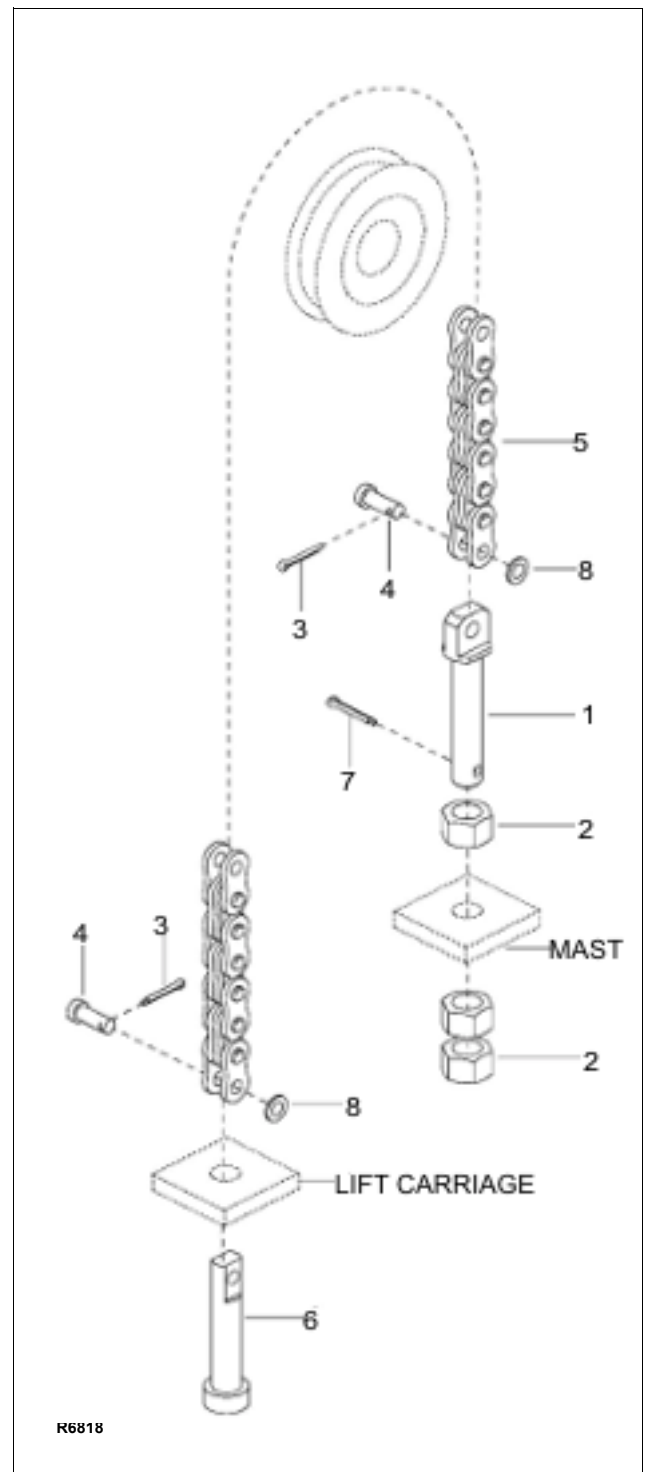
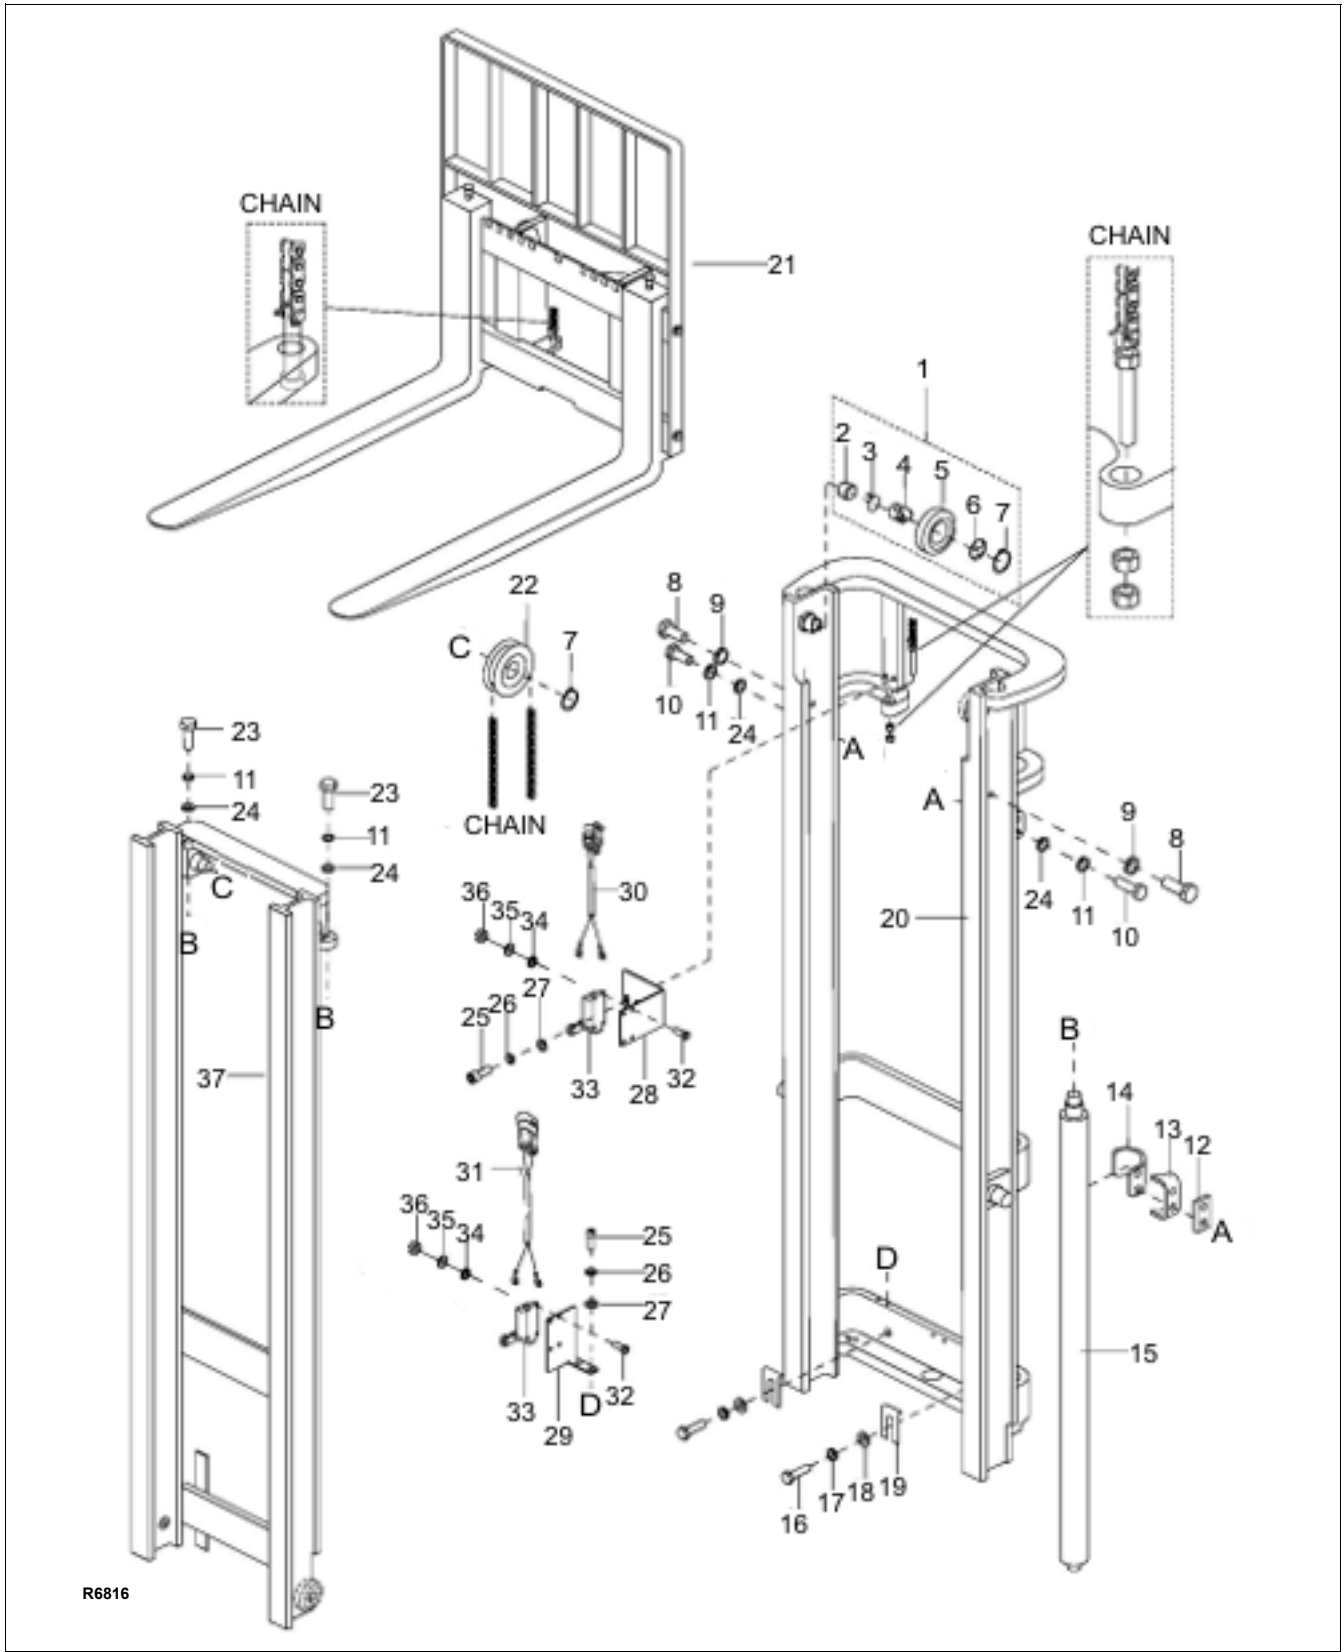

Figure 8-1 Chain Assembly
Figure 8-2 Elevation System (Telescopic)
3. Loosen jam nuts (2, Figure 8-1), located above the mount of outer mast (20, Figure 8-2), to allow for adjustment of middle jam nut.
4. Break the lower jam nuts (2, Figure 8-1), located below the mount of outer mast, free from the middle jam nuts (2).
5. Take up slack in both lift chains with middle jam nut (2). Strive for equal tension on both chains.
6. Align anchors (1) so each clevis pin (4) is parallel to outer mast cross (20, Figure 8-2).
CAUTION: At least 3 full threads must be present below lower nut (2, Figure 8-1) after adjustment.
3. Loosen jam nuts (2, Figure 8-1), located the above the mounts of cylinder (29, Figure 8-3), to allow for adjustment of middle jam nut.
4. Break the lower jam nuts (2, Figure 8-1), located below the mounts of cylinder (29, Figure 8-3), free from the middle jam nuts (2).
5. Take up slack in both lift chains with middle jam nut (2, Figure 8-1). Strive for equal tension on both chains.
3. Loosen jam nuts (2, Figure 8-1), the mount of outer mast (1, Figure 8-3), to allow for adjustment of middle jam nut.
4. Break the lower jam nuts (2, Figure 8-1), located below the mount of outer mast (1, Figure 8-3), free from the middle jam nuts.
1. With the lift truck wheels securely blocked, raise the forks approximately three feet from floor and position blocks or strong supports under inner mast (34, Figure 8-2).
4. Remove cotter pin (3, Figure 8-1) and clevis pin (4) connecting chain (5) to chain anchor (6) at the lift carriage.
5. Remove cotter pin (3) and clevis pin (4) connecting chain (5) to chain anchor (1) at the outer mast (20, Figure 8-2).
6. Remove chain from sheave (22).
7. Position new chain on sheave (22).
8. Secure chain to chain anchor (1, Figure 8-2) at the outer mast with clevis pin (4) and cotter pin (3).
9. Connect the opposite end of chain to chain anchor (6) at the lift carriage with clevis pin (4) and cotter pin (3).
4. Remove cotter pin (3, Figure 8-1) and clevis pin (4) connecting chain (5) to chain anchor (6) at inner mast (20).
6. Remove chain from sheave (14).
7. Position new chain on sheave (14).
8. Secure chain to chain anchor (1) at outer mast (1, Figure 8-3) with clevis pin (4, Figure 8-1) and cotter pin (3).
9. Connect the opposite end of chain to chain anchor (6) at inner mast (20, Figure 8-3) with clevis pin (4, Figure 8-1) and cotter pin (3).